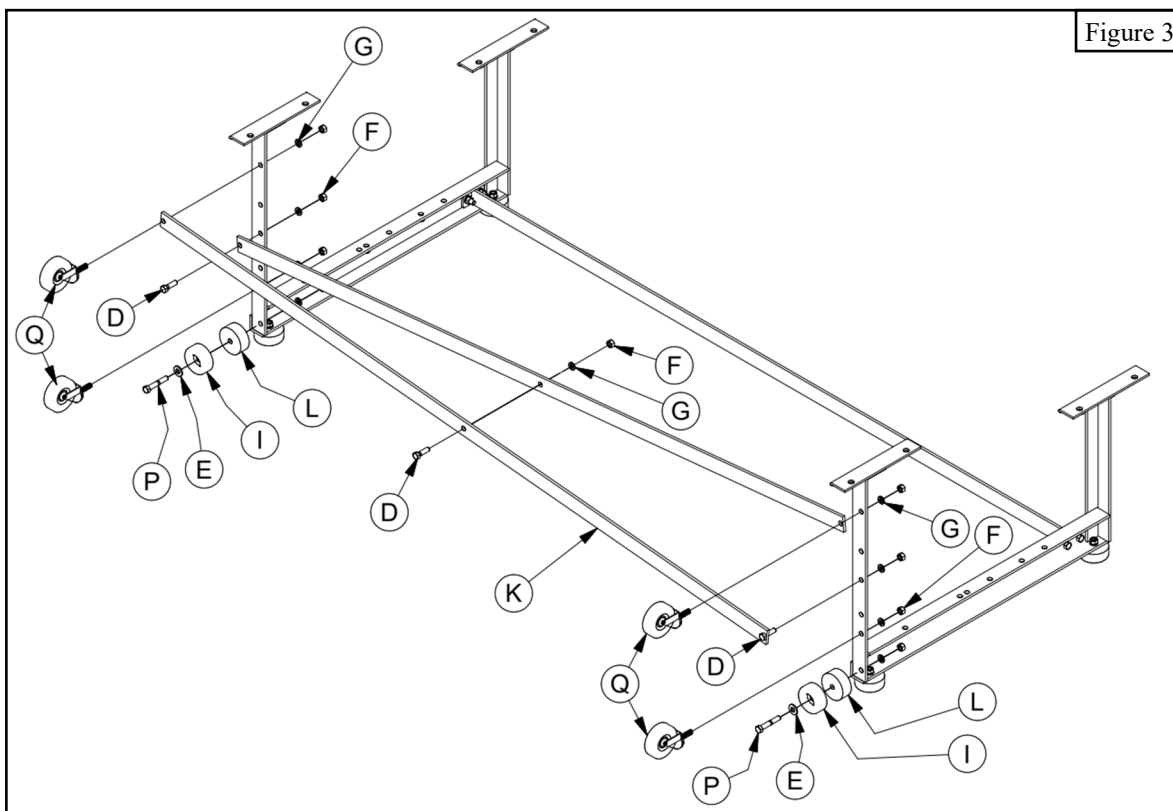

Figure 3
3. Using one each *3/8" x 1 1/4" Hex Bolt* (D), *3/8" Lock Washers* (G) and *3/8" Hex Nut* (F) connect the two *Rear Braces* (K) in the middle, leaving hardware finger tight. See Figure 3.
4. Use *Swivel Casters (Q)*, *3/8" Lock Washers (G)* and *3/8" Hex Nuts (F)* to attach top of *Rear Braces (K)* into the first hole from the top of *Welded Frames (C)*. See Figure 3.
5. Use *3/8" x 1 1/4" Hex Bolts (D)*, *3/8" Lock Washers (G)* and *3/8" Hex Nuts (F)* to attach bottom of *Rear Braces (K)* in the third hole down from the top of the *Welded Frames (C)*. See Figure 3.
6. Install *Swivel Casters (Q)* into the fifth hole down from the top of *Welded Frames (C)* and attach with *3/8" Lock Washers (G)* and *3/8" Hex Nuts (F)*. See Figure 3.
7. Attach *Spacers (L)* and *Rubber Feet (I)* through the bottom hole in the *Welded Frames (C)* with *3/8" x 2 1/4" Hex Bolts (P)*, *3/8" Flat Washer (E)*, *3/8" Lock Washers (G)* and *3/8" Hex Nuts (F)*. See Figure 3.